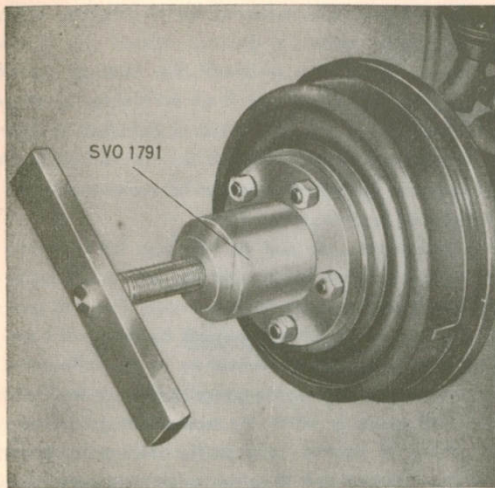

Fig. 5-1. Removing a wheel hub
1. Remove the wheel and pull off the wheel hub, Fig. 5-1. Use puller SVO 1791. Remove the brake backing plate after having placed a wooden block under the brake pedal and loosened the brake line from the backing plate.
1. Remove the wheel and pull off the hub, Fig. 5-1. Use puller SVO 1791. Remove the brake backing plate after having placed a wooden block under the brake pedal and disconnected the brake line from the backing plate.
1. Place the rear axle in a fixture or on a couple of supports of a suitable height. Remove the rear wheel hubs with puller SVO 1791, see Fig. 5-1.